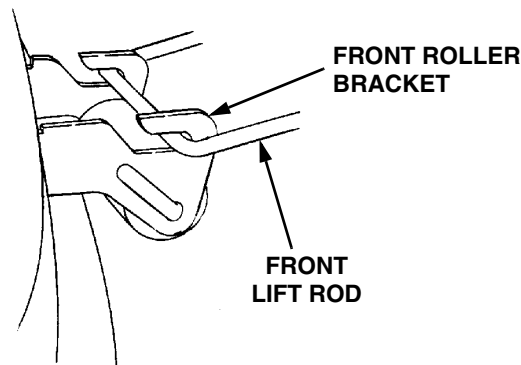

Figure 32
8. While holding the front lift rod up, slide the mower deck forward until the rod aligns with both front roller bracket slots. Lower the lift rod into the front roller bracket slots and slide the deck rearward to engage the lift rod fully forward in the slots of the deck front roller bracket (See Figure 32).